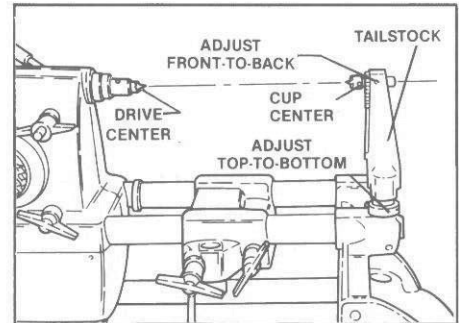

Figure 24. Aligning the lathe centers.
11. Align the lathe centers. Both the drive center and the cup center must be directly in-line with each other in order to properly support a spindle turning. (See Figure 24.)